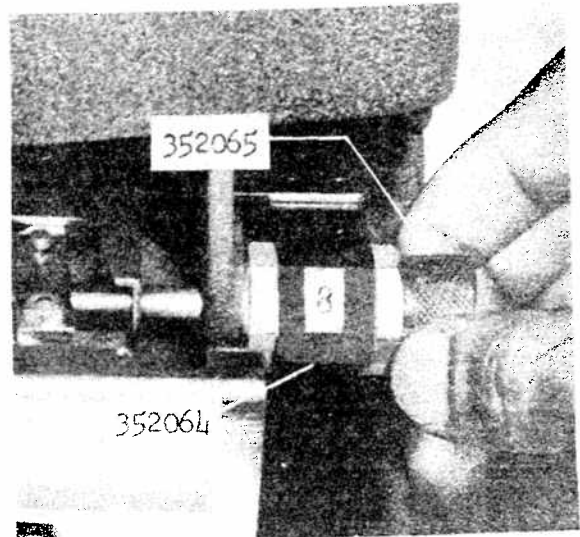

Figure 2
10. FEED SPACING ADJUSTMENT (Refer to Figure 2): The Feed Indicator Knob adjusts the feeding mechanism automatically to take any desired number of points per inch from 4 to 16. Adjustment is made by turning this knob 352065 until the desired number of points per inch appears through window of Feed Indicator Lock Spring 352064. The feed indicator is located at right-hand side of Setter as you face it.